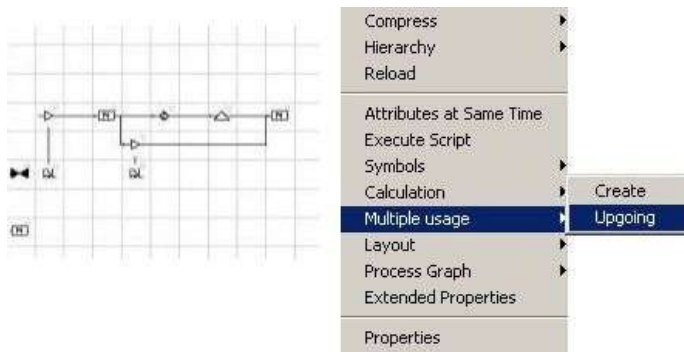

Figure 77: Starting an Upgoing Run-Up Calculation
- 1) Press the right mouse button on any empty space in the Manufacturing Concept. *Please refer to the Figure 77.*